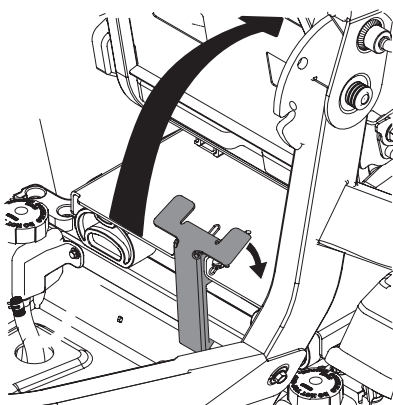

Figure 20
4. Rotate the entire seat pan upward. See Figure 20.